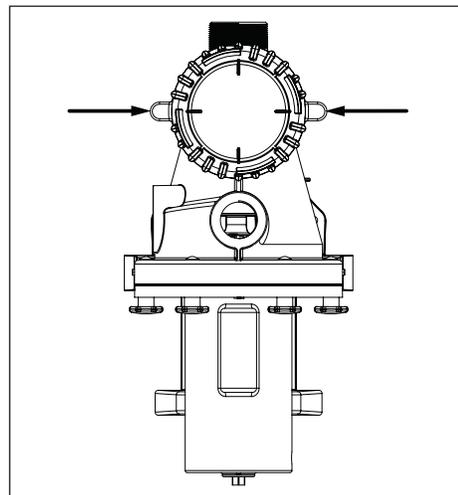

Figure 3 - Clamp rings
- ❑ The basket lid must be rotated and locked into position as indicated in Figure 3.